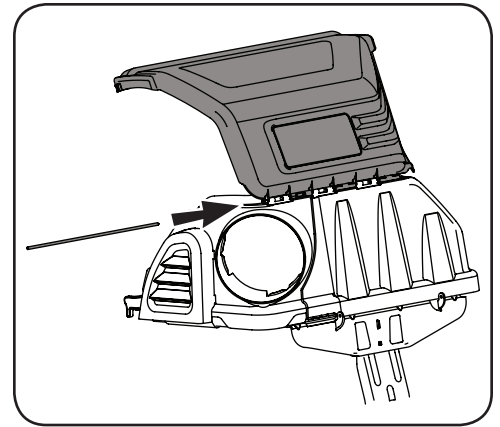

Figure 4-12
- From the front of the assembly, line up the tabs on the upper grass catcher cover with the tabs at the front of the upper chute support. Slide the hinge pin through the slots beginning at the right side upper chute support of the mounting tabs, as in Figure 4-12. Push the pin all the way in until it reaches the end-stop.